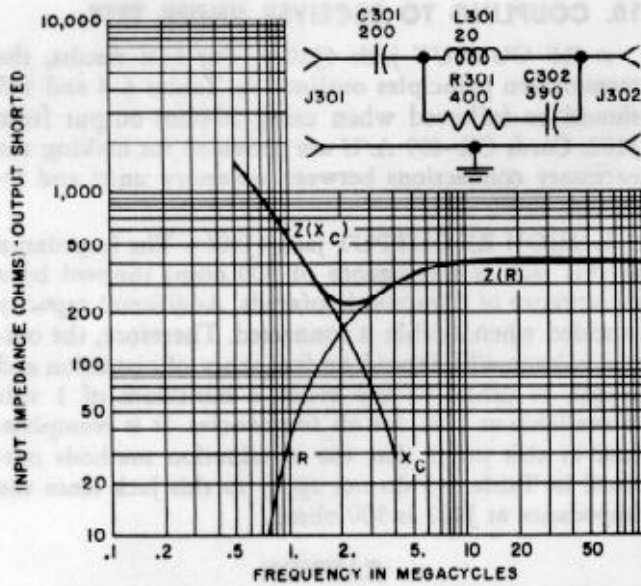

Figure 4-3. Dummy Load Impedance Curve
11. USE OF ELECTRICAL DUMMY LOAD DA-109/URM-25F. (See figure 4-3.)
c. It can be seen from figure 4-3 that the minimum impedance of the dummy load will be approximately 220 ohms at 2 megacycles. This impedance becomes much higher at lower frequencies and approaches 400 ohms at higher frequencies. When using the dummy load, it should be realized that a 20 percent maximum error may be introduced into the meter (M101) readings at 2 megacycles. If greater meter accuracy is required, the actual impedance of the dummy load should be determined from figure 4-3 at the frequency selected. For example, if the output frequency of the signal generator is 20 megacycles, it can be seen from figure 4-3 that the series impedance of the dummy load is approximately 400 ohms resistive. A meter indication of 10,000 microvolts then represents the input voltage to the dummy load.
e. For an accurate indication of the receiver output voltage, the impedance of the dummy load in series with the impedance of the equipment under test should total at least 500 ohms. From figure 4-3 it is apparent that the accuracy will be sufficiently good at frequencies above 5 megacycles. Below 5 megacycles, dummy load impedance falls approximately 220 ohms; to main-